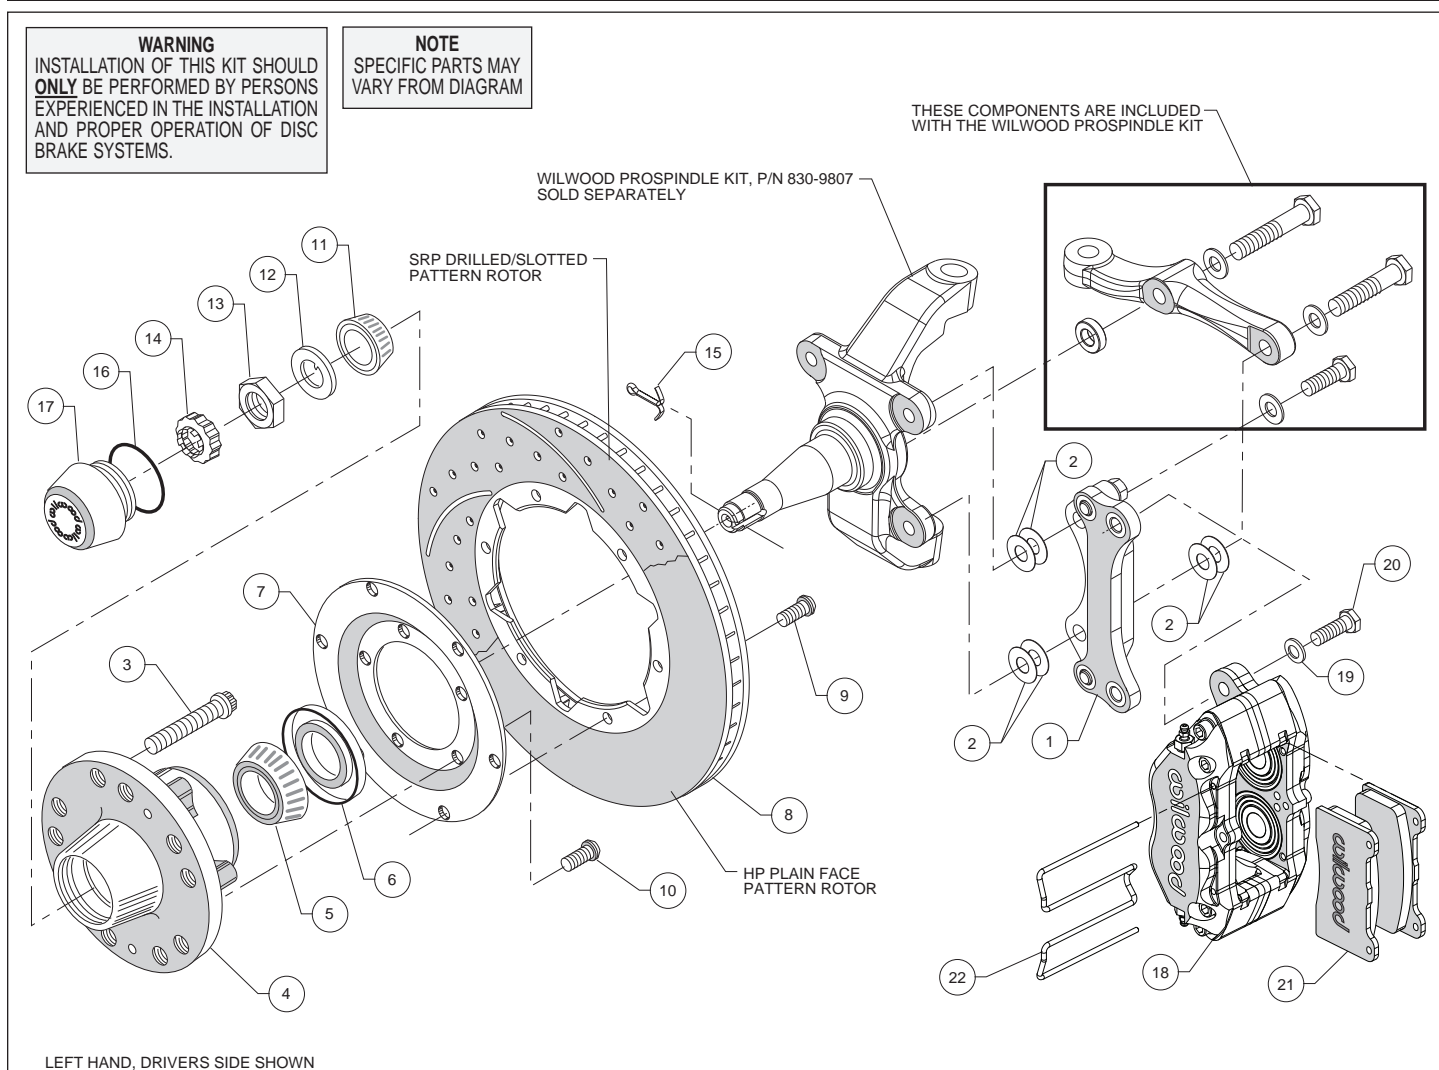
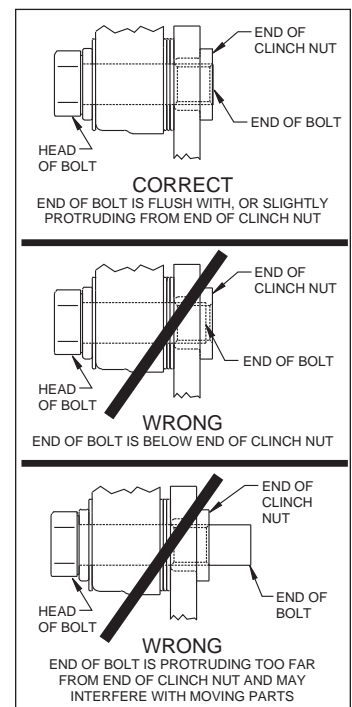

Figure 1. Typical Installation Configuration
Figure 3. Clinch Nut Engagement Diagram
Assembly Instructions (numbers in parenthesis refer to the parts list and Figure 1 on the preceding pages): **CAUTION:** All mounting bolts must fully engage insert nuts. Be sure to check that all bolts are either flush or protruding through flanged side of insert nut after shiming, Figure 3. **NOTE:** Rear hole refers to the part of the spindle that would be facing the back of the vehicle, front is facing the front of the vehicle.
•The caliper mounting bracket assembly (1) in conjunction with the Wilwood ProSpindle (P/N 830-9807, includes three mounting bolts, three washers, and a spacer, kit sold separately) should be installed first with clean, dry threads on the mounting bolts. Install the bracket on the inboard side of the spindle by sliding the 1.25" long bolt from the ProSpindle kit through a flat washer, also from the ProSpindle kit, through the top hole of the caliper mounting bracket and into the upper rear spindle mounting ear hole, as shown in Figure 1. Initially place two .016" thick shims (2) on top bolt between the bracket (1) and the spindle. Do not tighten at this time. Slide the 2.00" long bolt from the ProSpindle kit through a flat washer, through the rear (thinner end) hole on the steering arm, through bottom hole of mounting bracket (1), and into the lower rear spindle mounting hole. Initially place two .016" thick shims (2) on bottom bolt between the bracket and the spindle, Figure 1. The bracket is positioned between the steering arm and the spindle for the bottom bolt installation. The bracket and shim washers for the lower rear mounting must be a thickness of $.550 \pm .010$ ". Do not tighten at this time. Finish installing the steering arm assembly by sliding the 2.25" long bolt through flat washer, then through the front (thicker end) hole of the steering arm. Place the .25" thick spacer between the steering arm and the backside of the spindle. Snug all three bolts. The bracket must tighten squarely against the inboard side of the caliper mounting bosses on the spindle body. Inspect for interference from casting irregularities, machining ridges, burrs, etc. **NOTE:** Be sure the heads of the caliper bracket (1) insert nuts are facing outward toward the wheel.
- Install wheel studs (3) into the hub (4), Photo 1. Torque to 77 ft-lb. **NOTE:** There are two lug patterns of five holes each in the hub (5 x 4.50 and 5 x 4.75). Ensure the correct hub stud pattern is being used to fit the wheel application.
- Pack the large inner bearing cone (5) with high temperature disc brake bearing grease (available from your local auto parts store) and install into the backside of the hub (4), Photo 2.
- Install the grease seal (6) by pressing into the backside of the hub (4), Photo 2.
- Orient the rotor (8) and the rotor adapter (7) as shown in Figure 1 and Photo 3. Attach the rotor to the adapter using bolts (9). Using an alternating sequence, apply red *Loctite*® 271 to the threads, and torque to 25 ft-lb.
- Mount the adapter/rotor assembly (7/8) to the hub (4) using bolts (10), as shown in Figure 1 and Photo 4. Using an alternating sequence, apply red *Loctite*® 271 to the threads, and torque to 55 ft-lb.
•**NOTE:** Please reference the caution statement at the beginning of the assembly instructions. Mount the caliper (18) onto the caliper mounting bracket (1) using bolts (20) and washers (19), as shown in Figure 1. Temporarily tighten the mounting bolts and view the rotor (8) through the top opening of the caliper. The rotor should be centered in the caliper, Photo 7. If not, adjust the caliper mounting bracket (1) by using 0.016 inch thick shims (2) placed between the caliper mounting bracket and the spindle, or between the spindle and the steering arm, whichever is applicable to gain the proper caliper/rotor alignment. Always use the same amount of shims on each of the two mounting bolts. **NOTE:** The end of each bolt must be flush with or slightly protruding from the head of the clinch nut, as shown in Figure 3. If necessary place spare shims between washer (19) and caliper mounting ear to achieve the proper clinch nut engagement. Once the caliper alignment and clinch nut engagement are correct, remove the bolts one at a time, apply red Loctite® 271 to bolt threads, and torque to 40 ft-lb.
•Install the disc brake pads (21) into the caliper, with the friction material facing the rotor (8), and secure in place using the pad clip retainer (22), Photo 8.